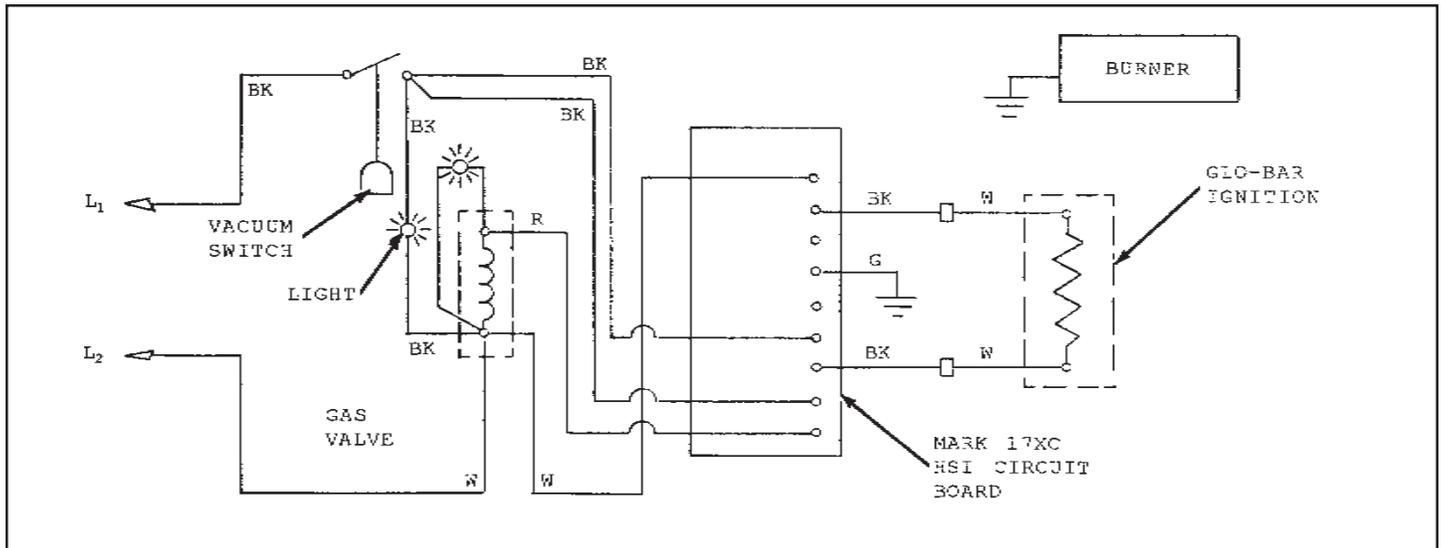

Figure 3.1
3.1 Starting Circuit (Figures 3.1 and 3.2)